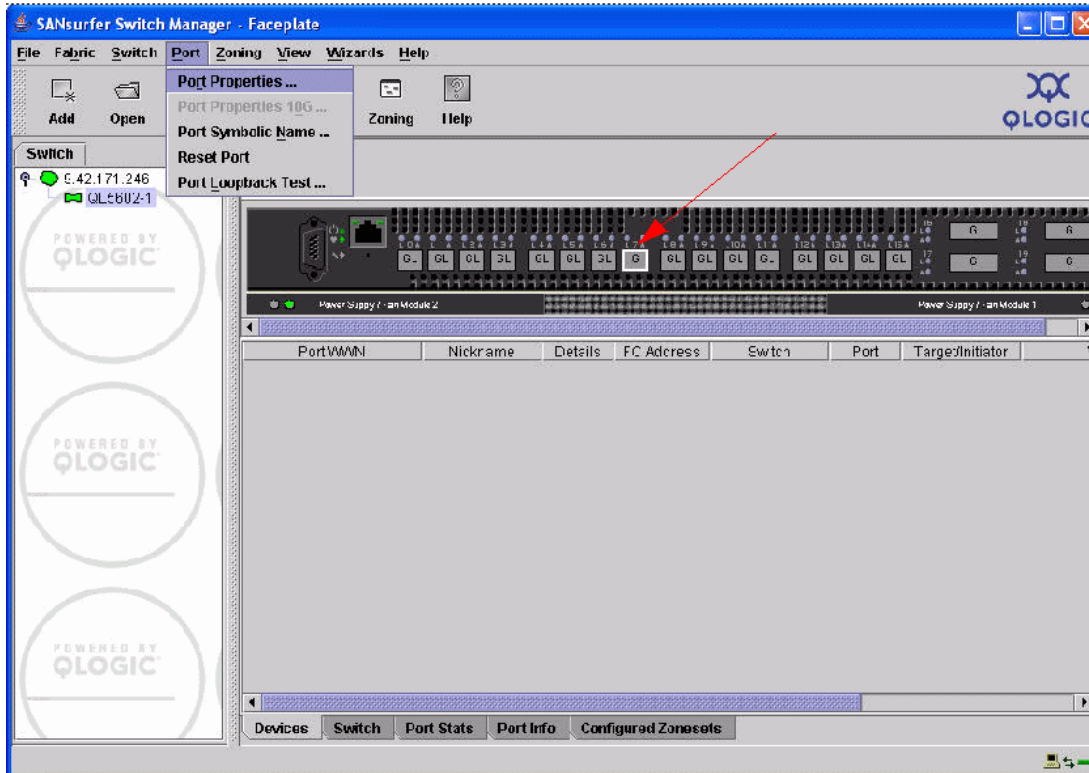

Figure 7-7 SANsurfer Switch Manager - Faceplate window
- From the SANsurfer Switch Manager Faceplate, select your desired E-Port. Next, select **Port** → **Port Properties** (Figure 7-7). In our example, we designated port 7.